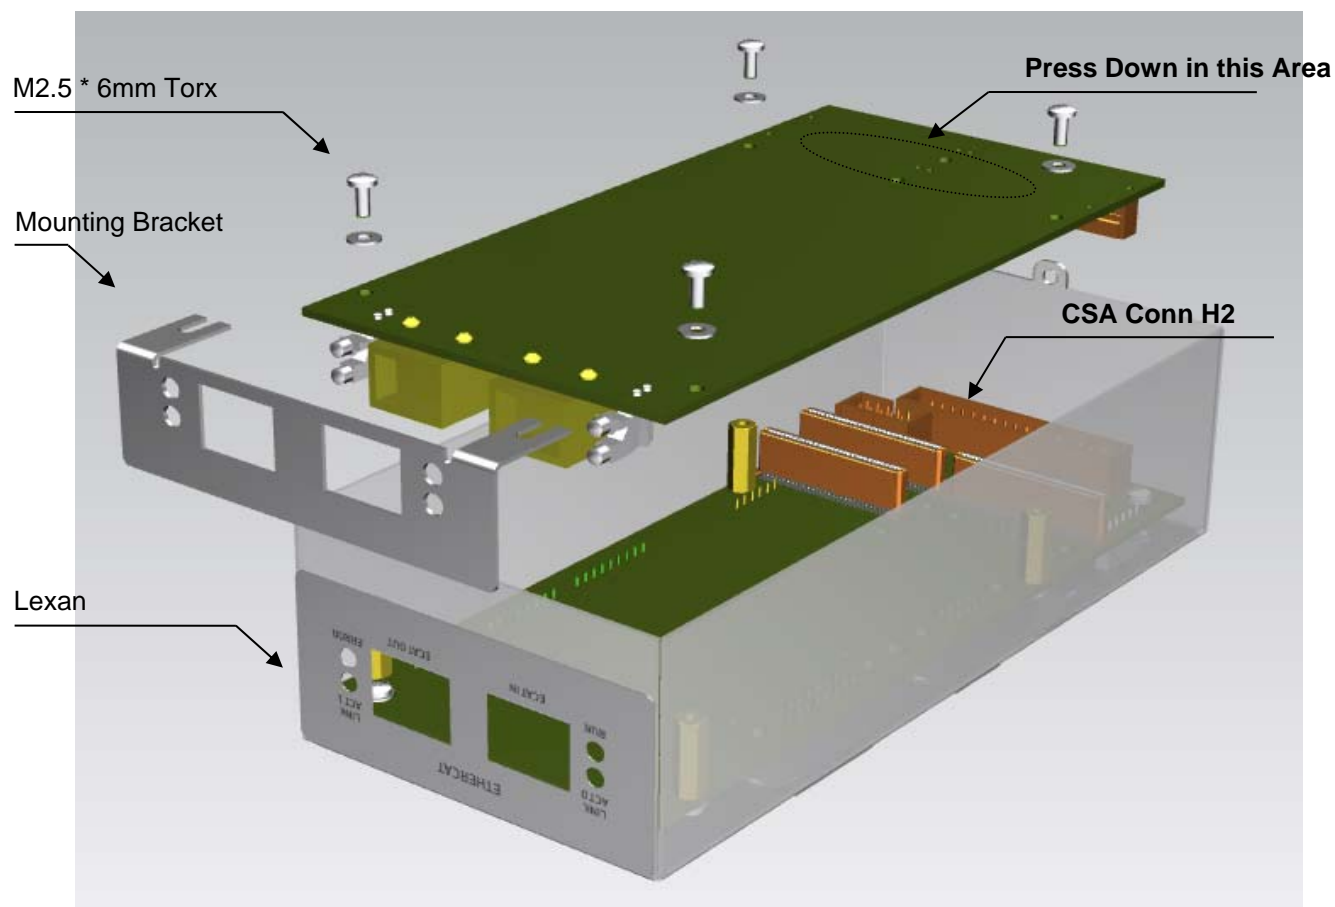

Figure 0-2 CSA Mezzanine Assembly Explosion (µA size)
4. Place the mezzanine card on to the host card, gently pushing the connectors see (*Figure 0-2 CSA Mezzanine Assembly Explosion*) together until the mezzanine card rests evenly on the four standoffs attached to the host card.